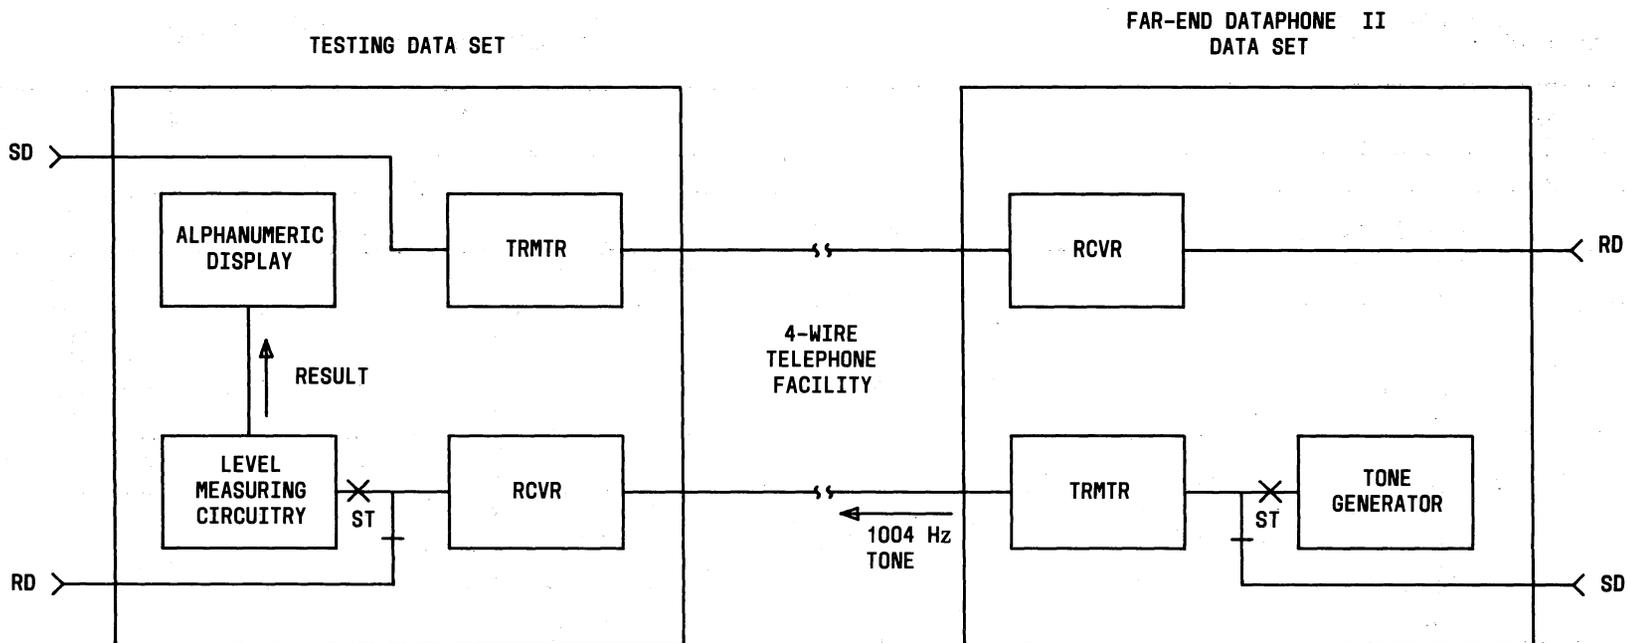

Fig. 23—Receive Loss Test
**3.72** This test (Fig. 23) can only be performed on data sets in the maintenance mode of operation. The RCV is designed to measure the 1004 Hz loss of the primary channel in the *inbound* direction to the testing data set.